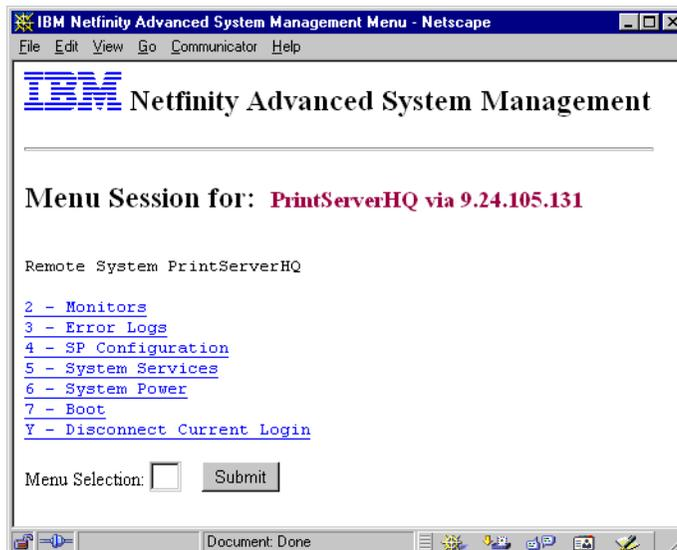

Figure 219. Now Connected to the Print Server
7. You are again prompted for a user ID and password, but this time for the ASM processor on the Netfinity 5000 PrintServerHQ. After you identified yourself, a menu Web page appears as in Figure 219:
The next step is to check the status of the PrintServerHQ server. You want to know if the server is still powered on. You click **6-System Power** from Figure 219.